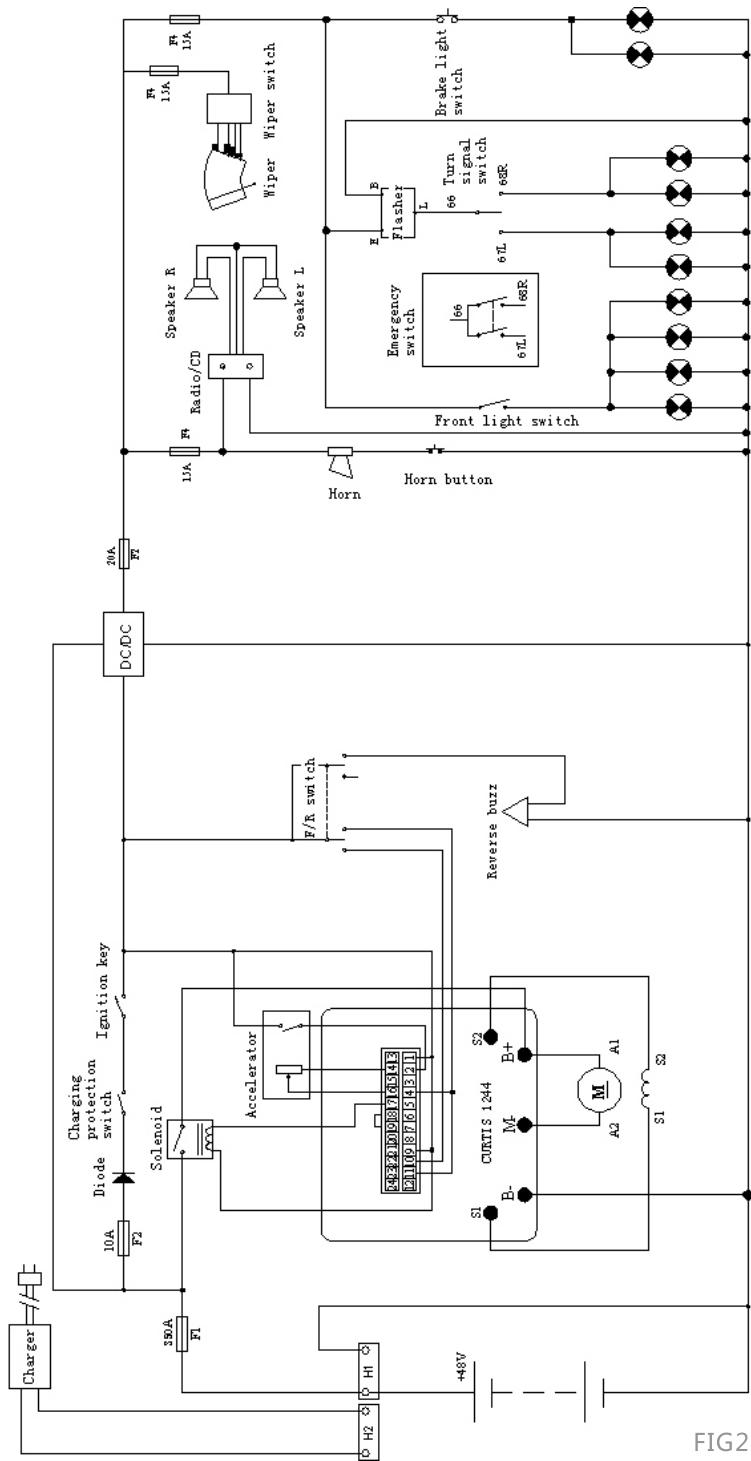

FIG2
- 2) Wiring Diagram of Sepex System (FIG.2)